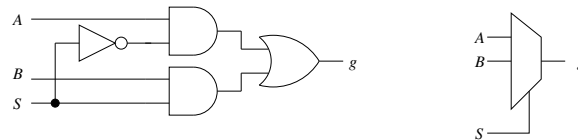

Figure 1: MUX: logic gates and icon
Lab1 gets you started with Vivado and the BASYS3 board by implementing the simple 2×1 MUX in fig. 1 four different ways. The last Part of the lab is to run the Vivado Simulator to simulate a MUX logic design and display the simulation waveforms.
Your I/O ports must have the correct names for agreement with fig. 1; therefore, make `g` the name of the Output port and `S` the name of the select Input port.
1. Open a new project and implement a block diagram for the MUX in fig. 1 with one INV, two 2-input ANDs, and one 2-input OR.